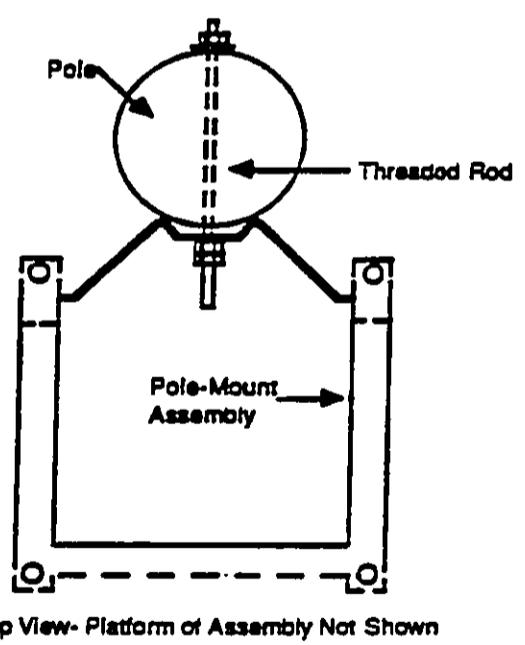

Fig. 2-6
- 2 Position the pole-mount assembly in front of the first hole, and using the 1 in. (25.4 mm) diameter threaded rod, nuts, washers, and lock washer, fasten the assembly to the pole as shown in Fig. 2-6. Leave the extra length of the rod projecting towards the front of the assembly.